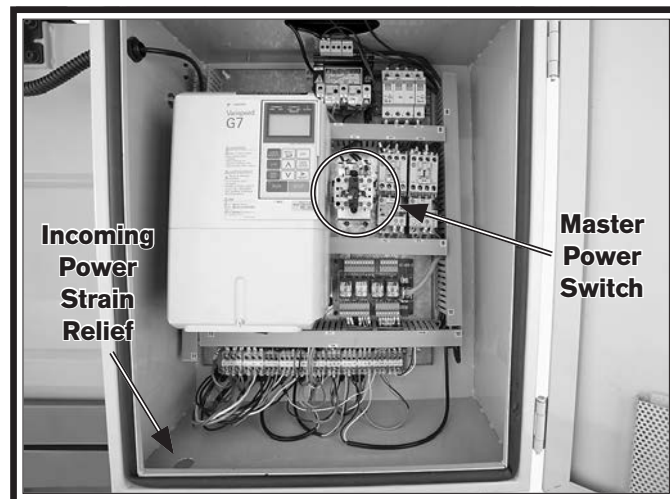

Figure 19. Location to connect power inside main electrical cabinet.
3. Thread the power cord through the strain relief and up to the master power switch shown in **Figure 19**.